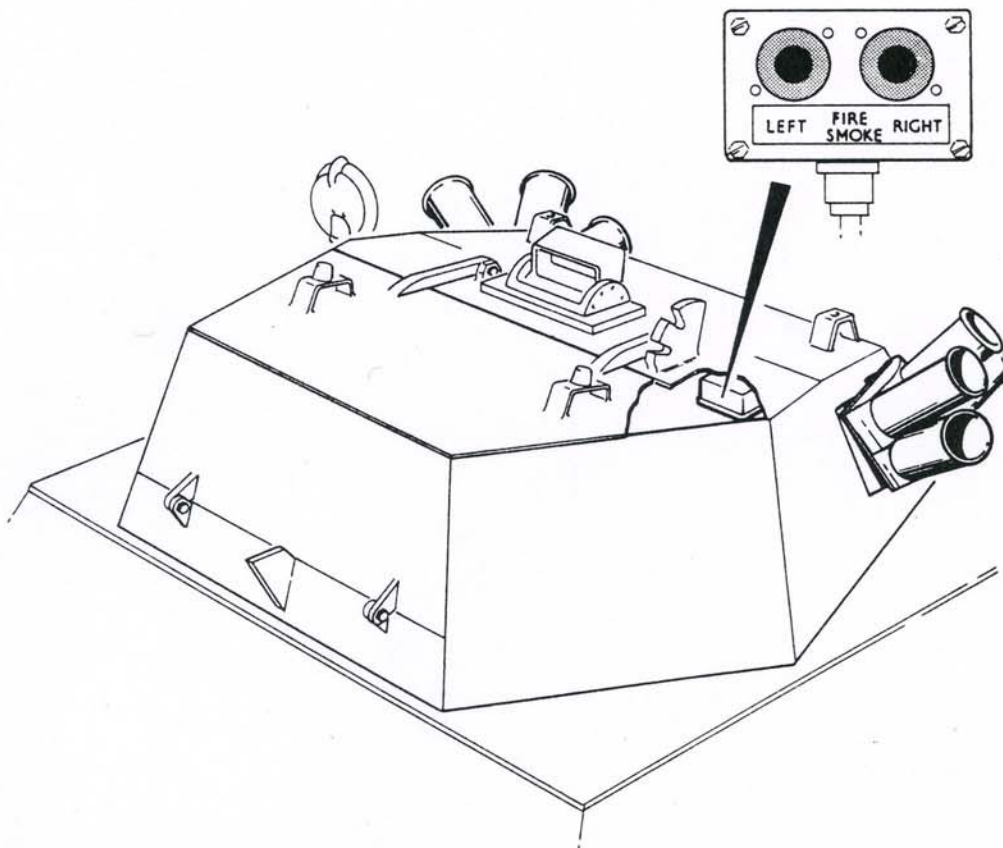

Fig.3-1 Smoke dischargers
| Fig. 3-1 | Smoke dischargers               | ... | ... | ... | ... | ... | 1 |
5. Smoke dischargers (Fig.3-1)